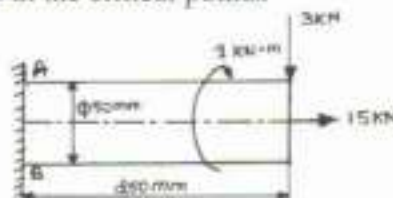

Fig.Q2(a)
2. a. A circular rod of diameter 50 mm is subjected to loads as shown in Fig.Q2(a). Determine the nature and magnitude of stress at the critical points.